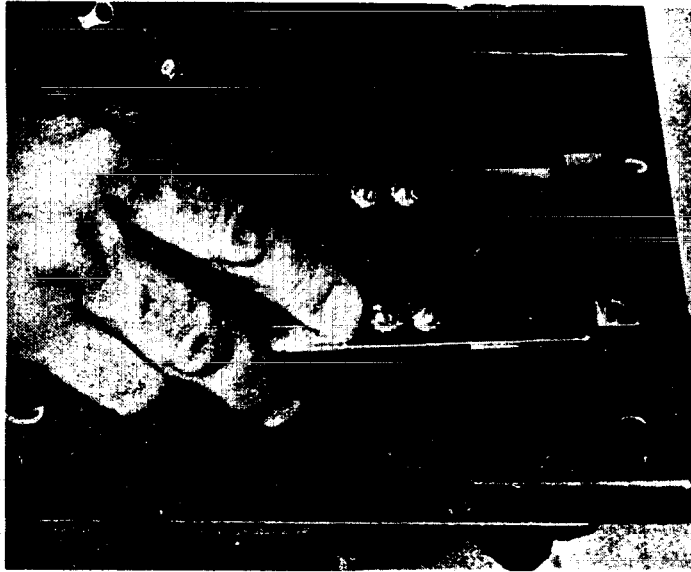

FIGURE 18
3. Remove the time delay relay from its bracket. The screws pictured in Figure 18 hold the relay to the bracket. Mount the replacement time delay relay on the bracket.